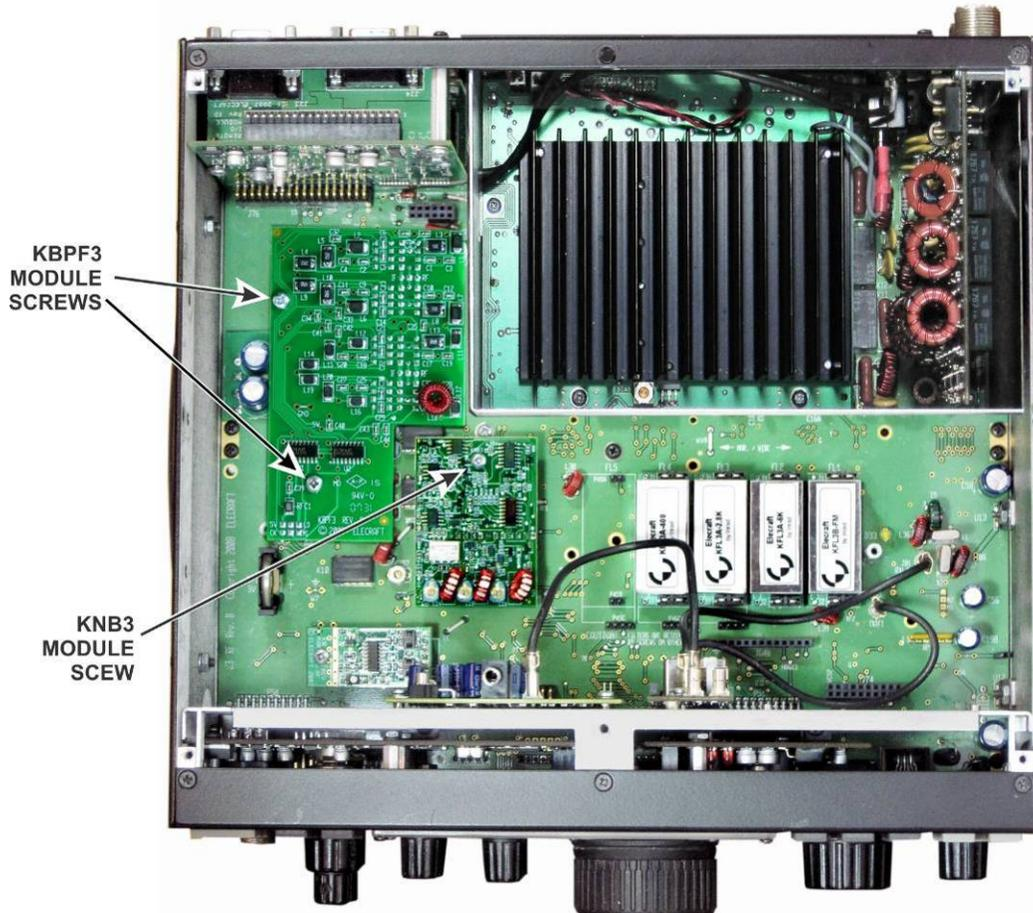

Figure 10. KBPF3 and KNB3 Modules on K3 RF Board
- ☐ Remove the KNB3 and KBPF3 modules from the K3 (see Figure 10). Remove the screws shown, lock washers, and unplug both modules.
- Replace the modified KBPF3 on the K3 RF board (see Figure 10 on page 13). Be sure the three connectors are properly engaged. When they are engaged, the screw holes should line up with the threaded standoffs below. Secure the board with the two 4-40 3/16" (4.8 mm) zinc pan head screws with split lock washers you removed earlier.
- Replace the KNB3 board. It should fit over the poly capacitor you installed earlier (see Figure 10 on page 13). Secure it with the 4-40 3/16" (4.8 mm) pan head screw you removed earlier.
- Replace the modified KBPF3 on the sub receiver RF board (see Figure 10 on page 13). Be sure the three connectors are properly engaged. When they are engaged, the screw holes should line up with the threaded standoffs below. Secure the board with the two 4-40 3/16" (4.8 mm) zinc pan head screws with split lock washers you removed earlier.
- Replace the KNB3 board on the RF board. It should fit over the poly capacitor you installed earlier (see Figure 10 on page 13). Secure it with the 4-40 3/16" (4.8 mm) pan head screw you removed earlier.